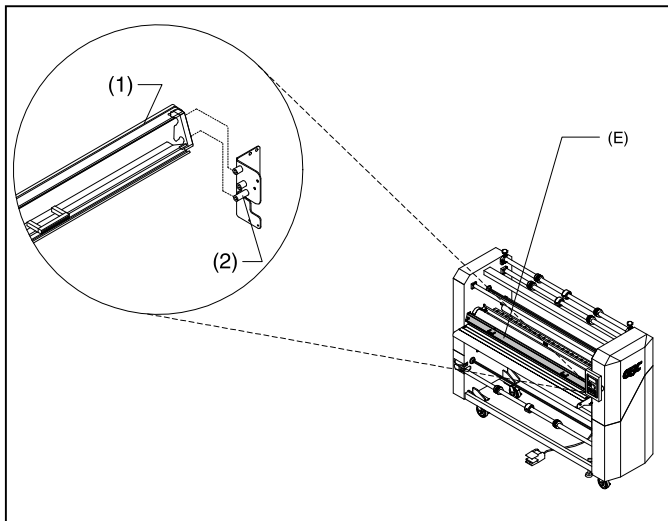

Fig. 13
E. SAFETY SHIELD: (Figure 13) Prevents entanglement, entrapment and inadvertent contact with the heat rollers. **The laminator will operate only when the Safety Shield is located in the fully locked and closed position. Power to the motor is removed when the shield is in the open position or the interlock latch is unlocked.**